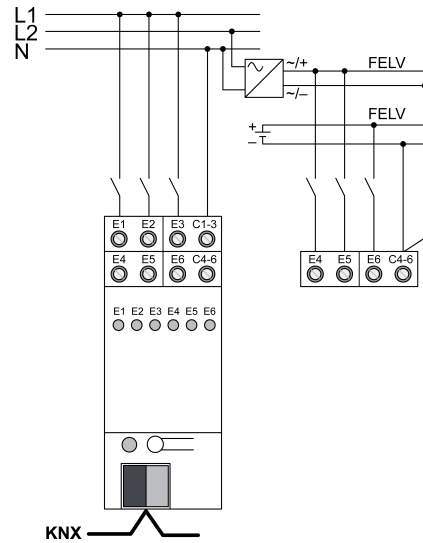

Figure 4: Joint connection of mains and low-voltage circuits
- i** If mains-powered power sources are connected at the same time, then installation rules according to FELV apply for the connected low-voltage circuits - irrespective of the safety of the current source (figure 4).